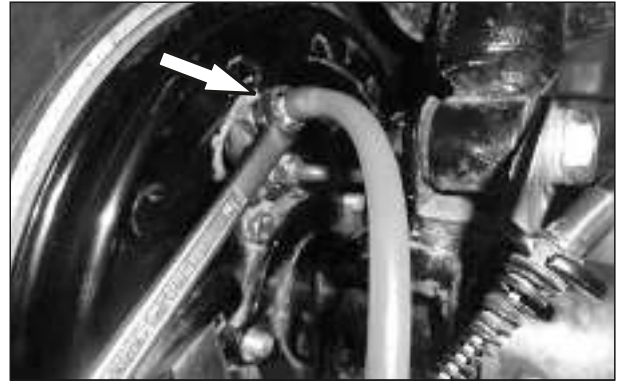

Fig. 2.76
- Open the bleed screw  $\frac{1}{2}$  to  $\frac{3}{4}$  of a turn, sufficient to allow the brake fluid to flow freely. (Fig.2.76)